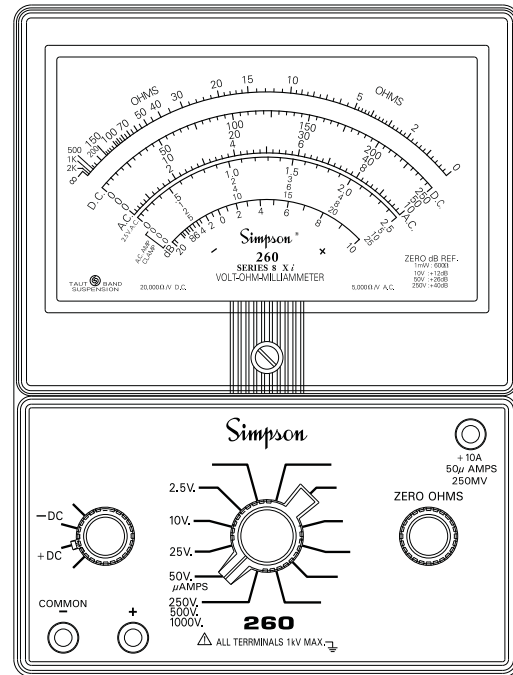

Figure 4-1. Jacks and Switch Positions for Measuring DC Voltages, 0-250V Ranges
- Set the function switch at +DC (Figure 4-1).